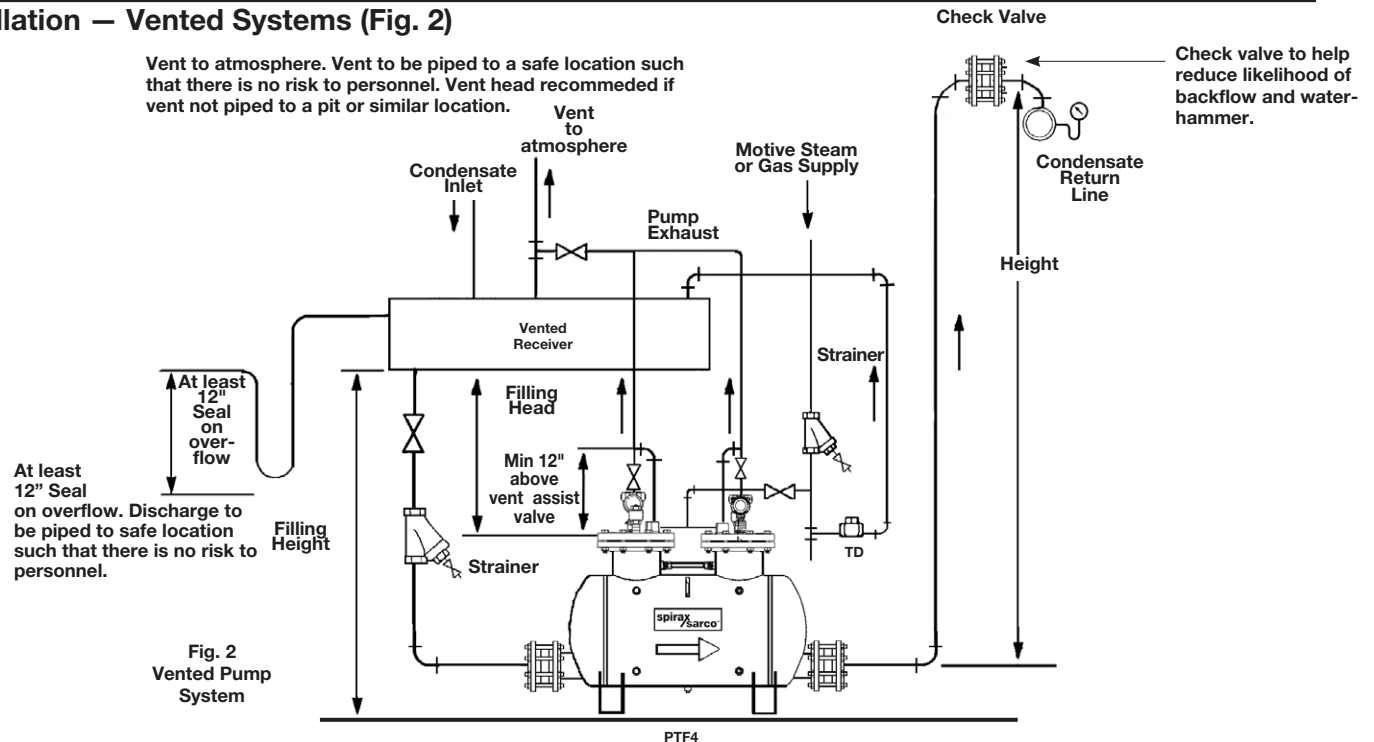

Fig. 2
Installation – Vented Systems (Fig. 2)
A receiver overflow piping should be installed as shown in Fig. 2 and piped to a suitable drain. The piping must form a loop type water seal at least 12” deep immediately after the receiver.
1. Install the pump physically below the receiver to be drained with the exhaust connection vertically upwards. Pump should be installed with the recommended filling head (the vertical distance between the top of the pump and the bottom of the receiver) as shown in Fig. 2. For other filling head variations, see the capacity table on TI-5-030-US.
2. To prevent equipment flooding during the pump discharge stroke, a vented receiver should be installed in a horizontal plane ahead of the pump as shown in Figure 2. For proper receiver sizing, refer to table 1. All inlet line fittings must be fully ported.
5. Any horizontal runs in the exhaust line should be pitched so that the line is self-draining. The exhaust line should be piped, unrestricted, to atmosphere as shown in Figure 2.